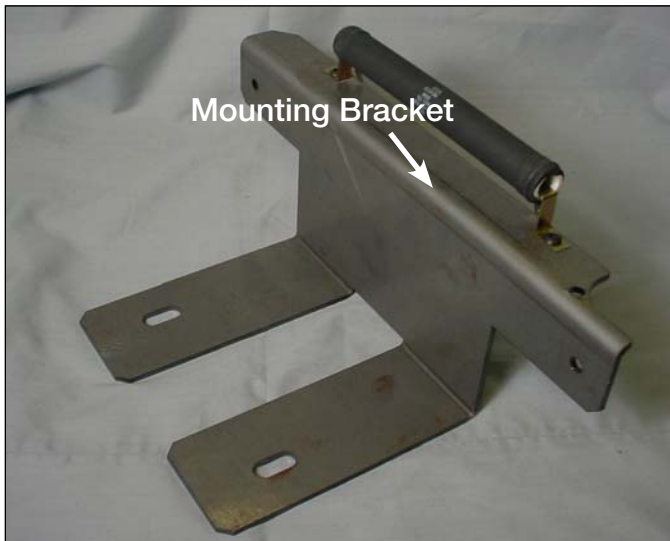
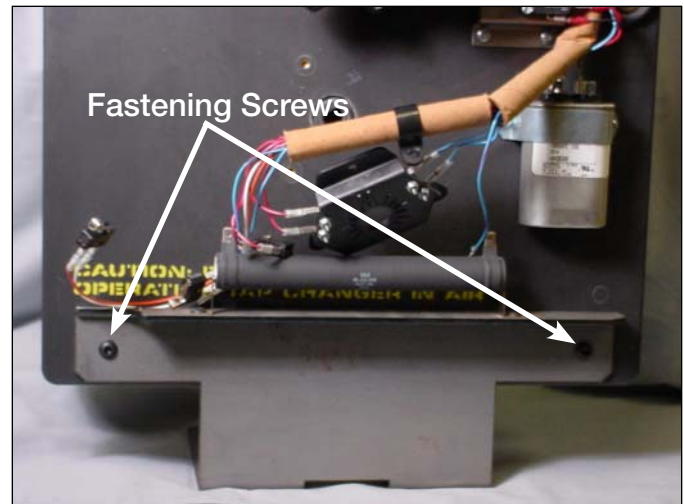

Figure 37.
Figure 38.
6. Place the mounting bracket, see Figure 37, to the base of the tap changer assembly and fasten with two pan head hex screw and tighten with a 5/32 Allen Wrench. See Figure 38.